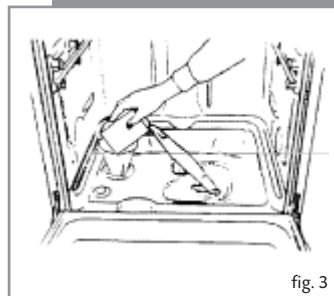

fig. 3
2. Fill the compartment with dishwasher salt (do not use table salt), carefully to prevent unnecessary spillage. Before first use, you should fill the compartment with 2kg of dishwasher salt and then fill up the salt compartment with water (up to the brim of the compartment) as shown in figure 3.